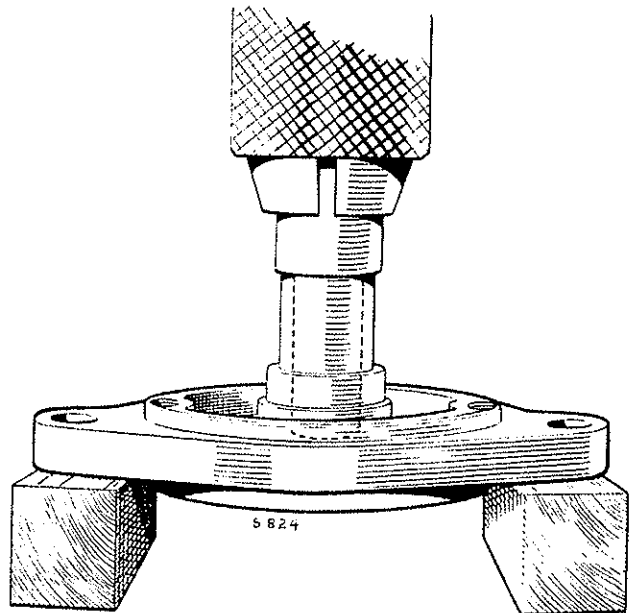

Fig. N.28. Fitting the bearing bush (drive end)
2. Press the new bearing bush into the end bracket using a shouldered, highly polished mandrel of the same diameter as the shaft, which is to fit in the bearing (Fig. N.28). Porous bronze bushes must not be reamed after fitting, or the porosity of the bush may be impaired.